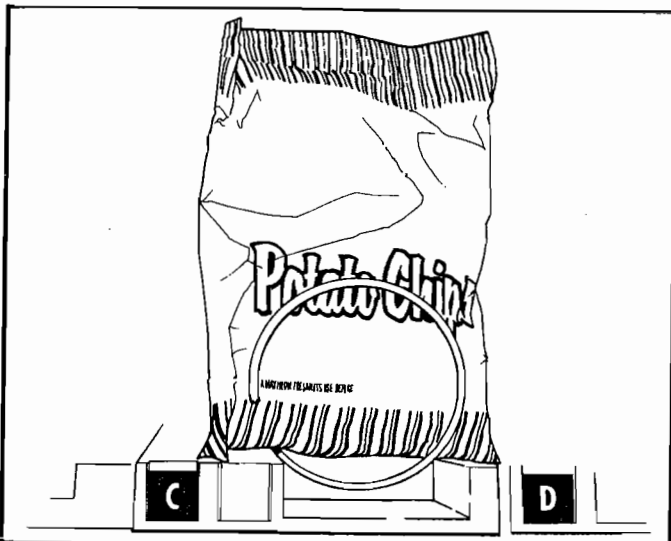
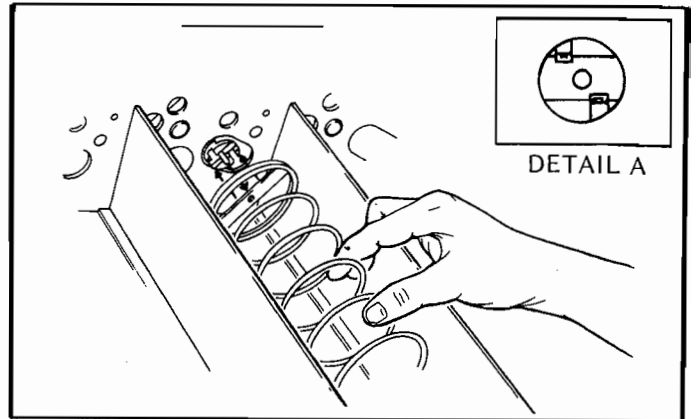
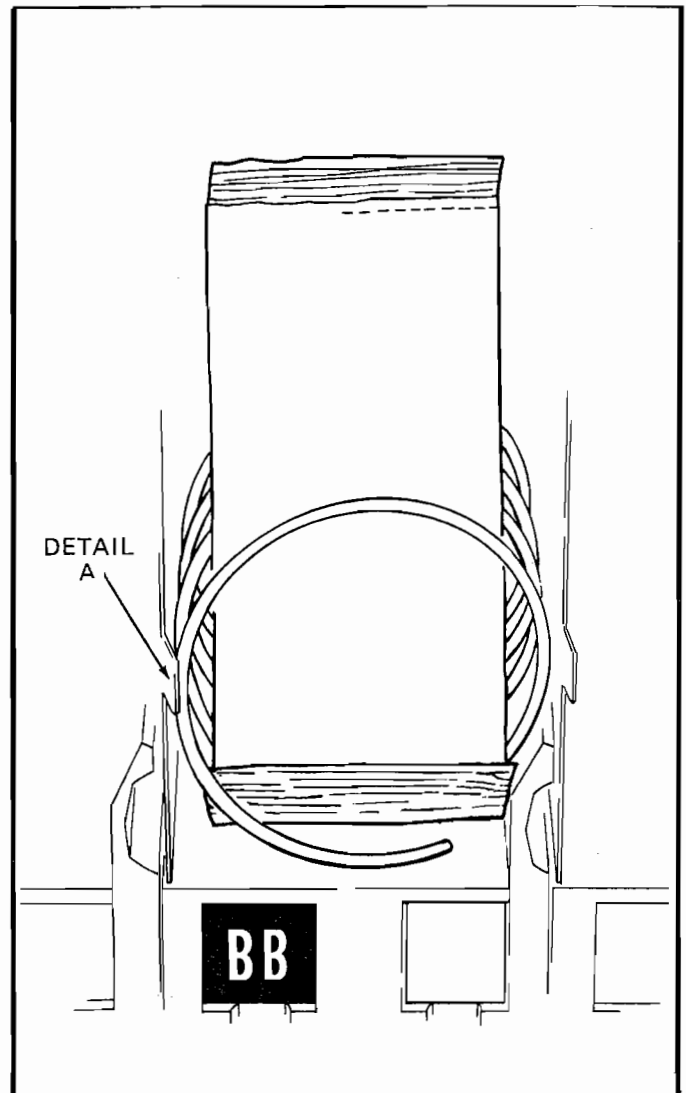

Figure 2. PLACEMENT OF PRODUCT ON MAIN PRODUCT SNACK SHELVES AND FRONT END POSITION OF SPIRAL.
Figure 3. REMOVING AND INSTALLING SPIRAL.
Figure 5. PLACEMENT OF PRODUCT ON MAIN PRODUCT CANDY SHELVES AND FRONT END POSITION OF SPIRAL.
IMPORTANT: Product must not be forced into the spiral spaces but should fit freely. If the product is too tight, use a larger pitch spiral. The bottom of the product should be placed on top of the spiral wire that rests on the shelf surface (see Figure 2). The width of the product must be greater than the diameter of the snack spiral. If it is smaller, the product may fall through when it is in the front, ready to vend position.
5. **REMOVAL OF SPIRAL:** To remove a spiral, grasp the spiral near the rear of the shelf and pull forward. To install a spiral, align the hole in the cross strap, at the rear of spiral, with the motor shaft. (See Figure 3) Be sure the front end of the spiral is positioned properly (with the front end of spiral pointing downward on the left side) (see Figure 2); align strap between retainer tabs on spiral retainer (see Detail A, Figure 3) attached to motor shaft, push spiral to rear until both tabs snap over strap (see Figure 3). Give a light forward pull on front of spiral to check if it is locked in place.
7. **LOADING MAIN PRODUCT CANDY SHELVES:** The 10-selection (candy type) shelves are loaded similar to the 5-selection shelves except that the bottom of the product sits on the shelf in *front* of the spiral wire (see Figure 5) that rests on the shelf. These products must also fit properly in the spiral space; *do not* force product into spiral. These spirals are removed and installed the same as the large spiral (see Figure 3), except that the front end position is different (approximately 5 o'clock) (see Figure 5) and the front left side of the spiral must be behind the small tab located on the left side of the product space side wall (see Figure 5, Detail A).